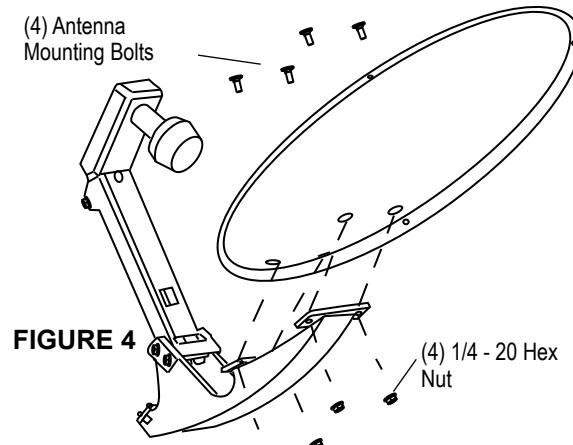

FIGURE 4
STEP 3. Assemble dish to backup using bolts and nuts provided, Figure 4.